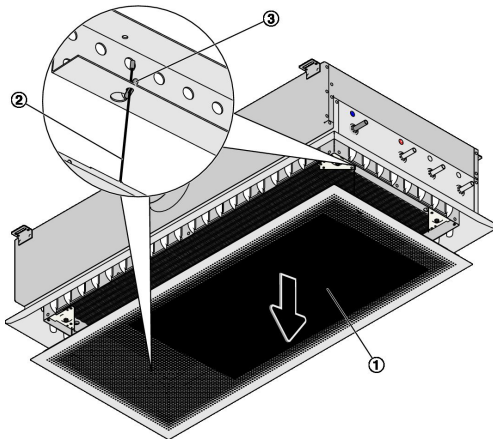

Fig. 10: Opening the induced air grille
- ▶ To open the induced air grille (Fig. 10/1), pull it down. To completely remove the grille, unhook the safety cables (Fig. 10/2) by pulling them down with the retaining plates (Fig. 10/3).